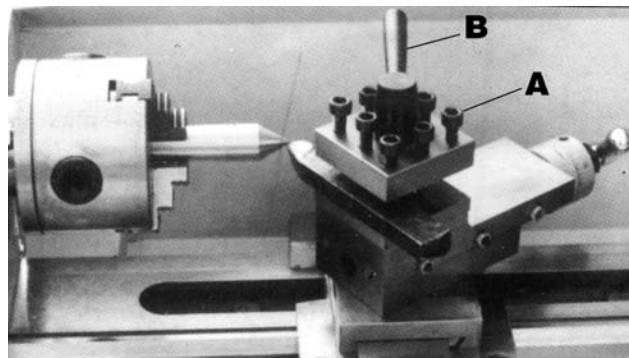

FIGURE 8
To adjust the tool post position, you need to loosen the lever (B) shown in Fig.8. After you have finished, be sure to tighten. If you are going to replace the work cutter then you need to loosen the cap screws (A) with one of the hex. keys provided.